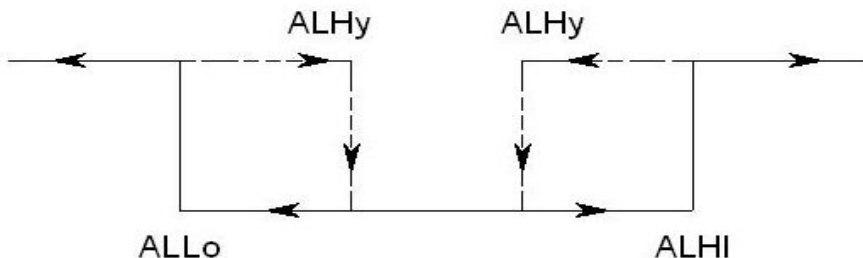

Fig. 4
- * *The function of " Alarm Low limit value " setting, refer to page 12, Fig. 4.*
- * The function of " Alarm Hysteresis value " setting, refer to following Fig. 4.